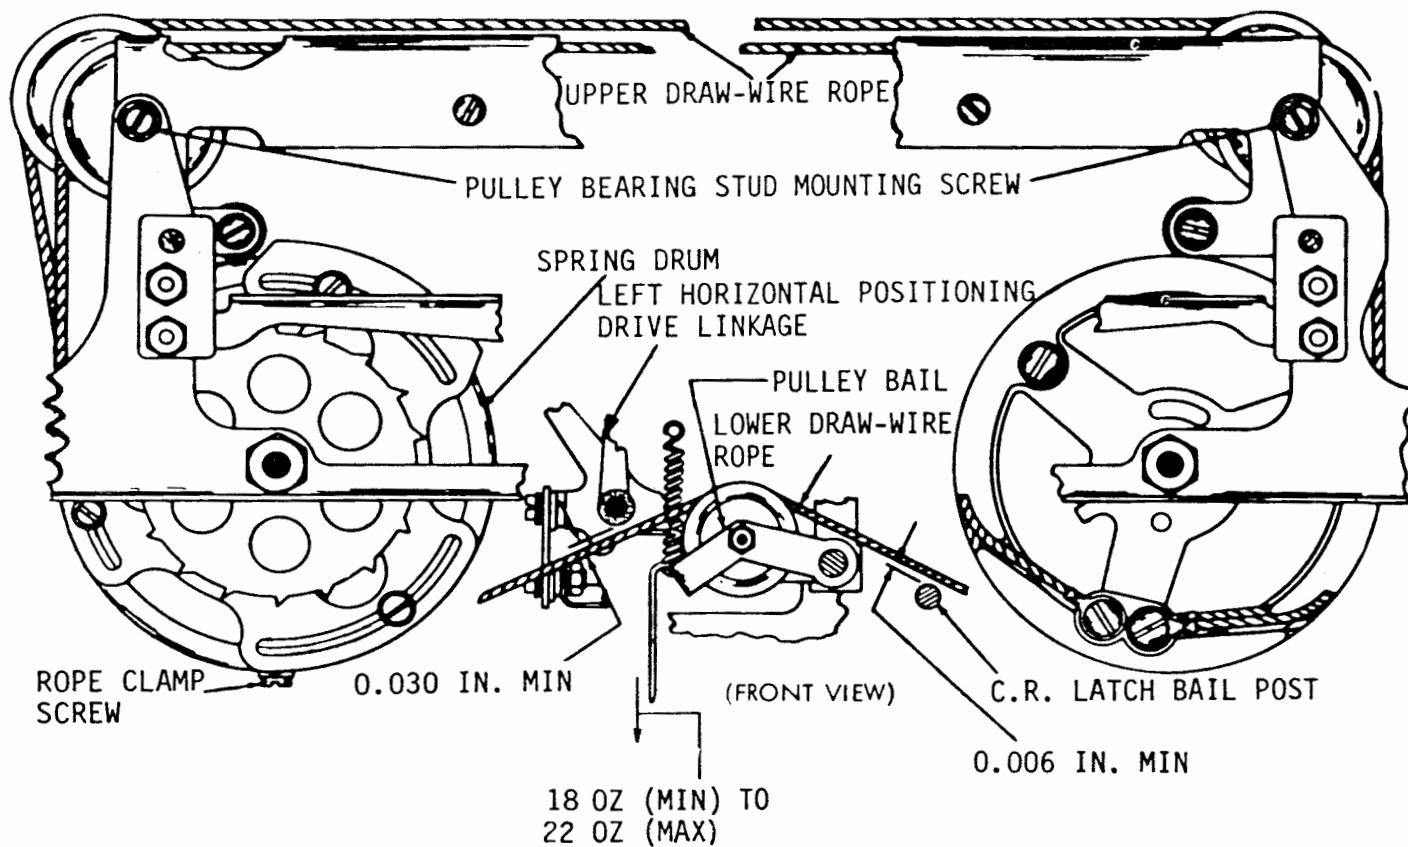
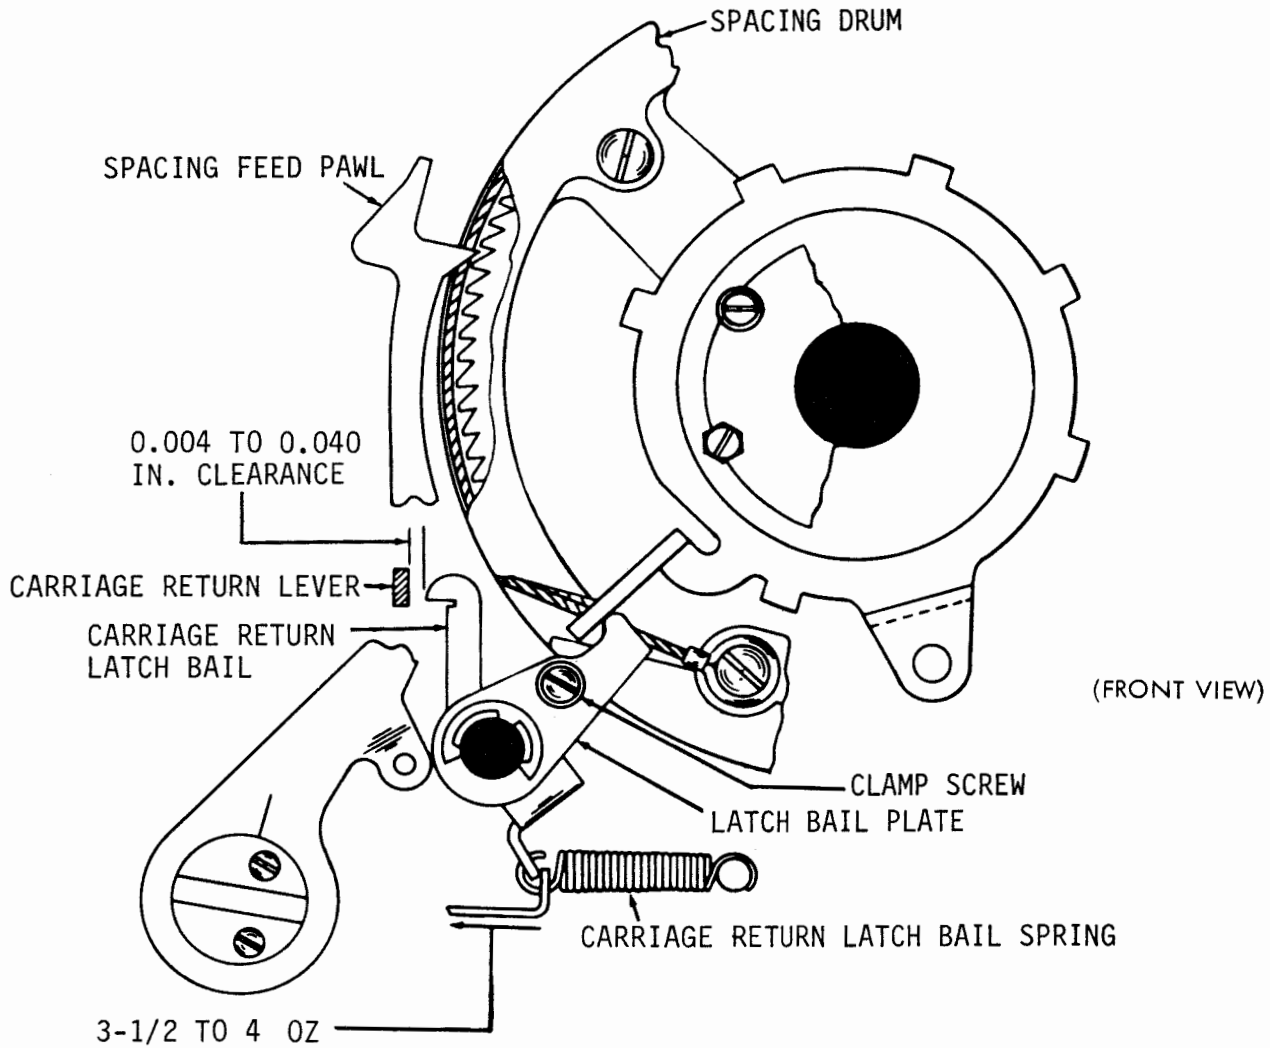
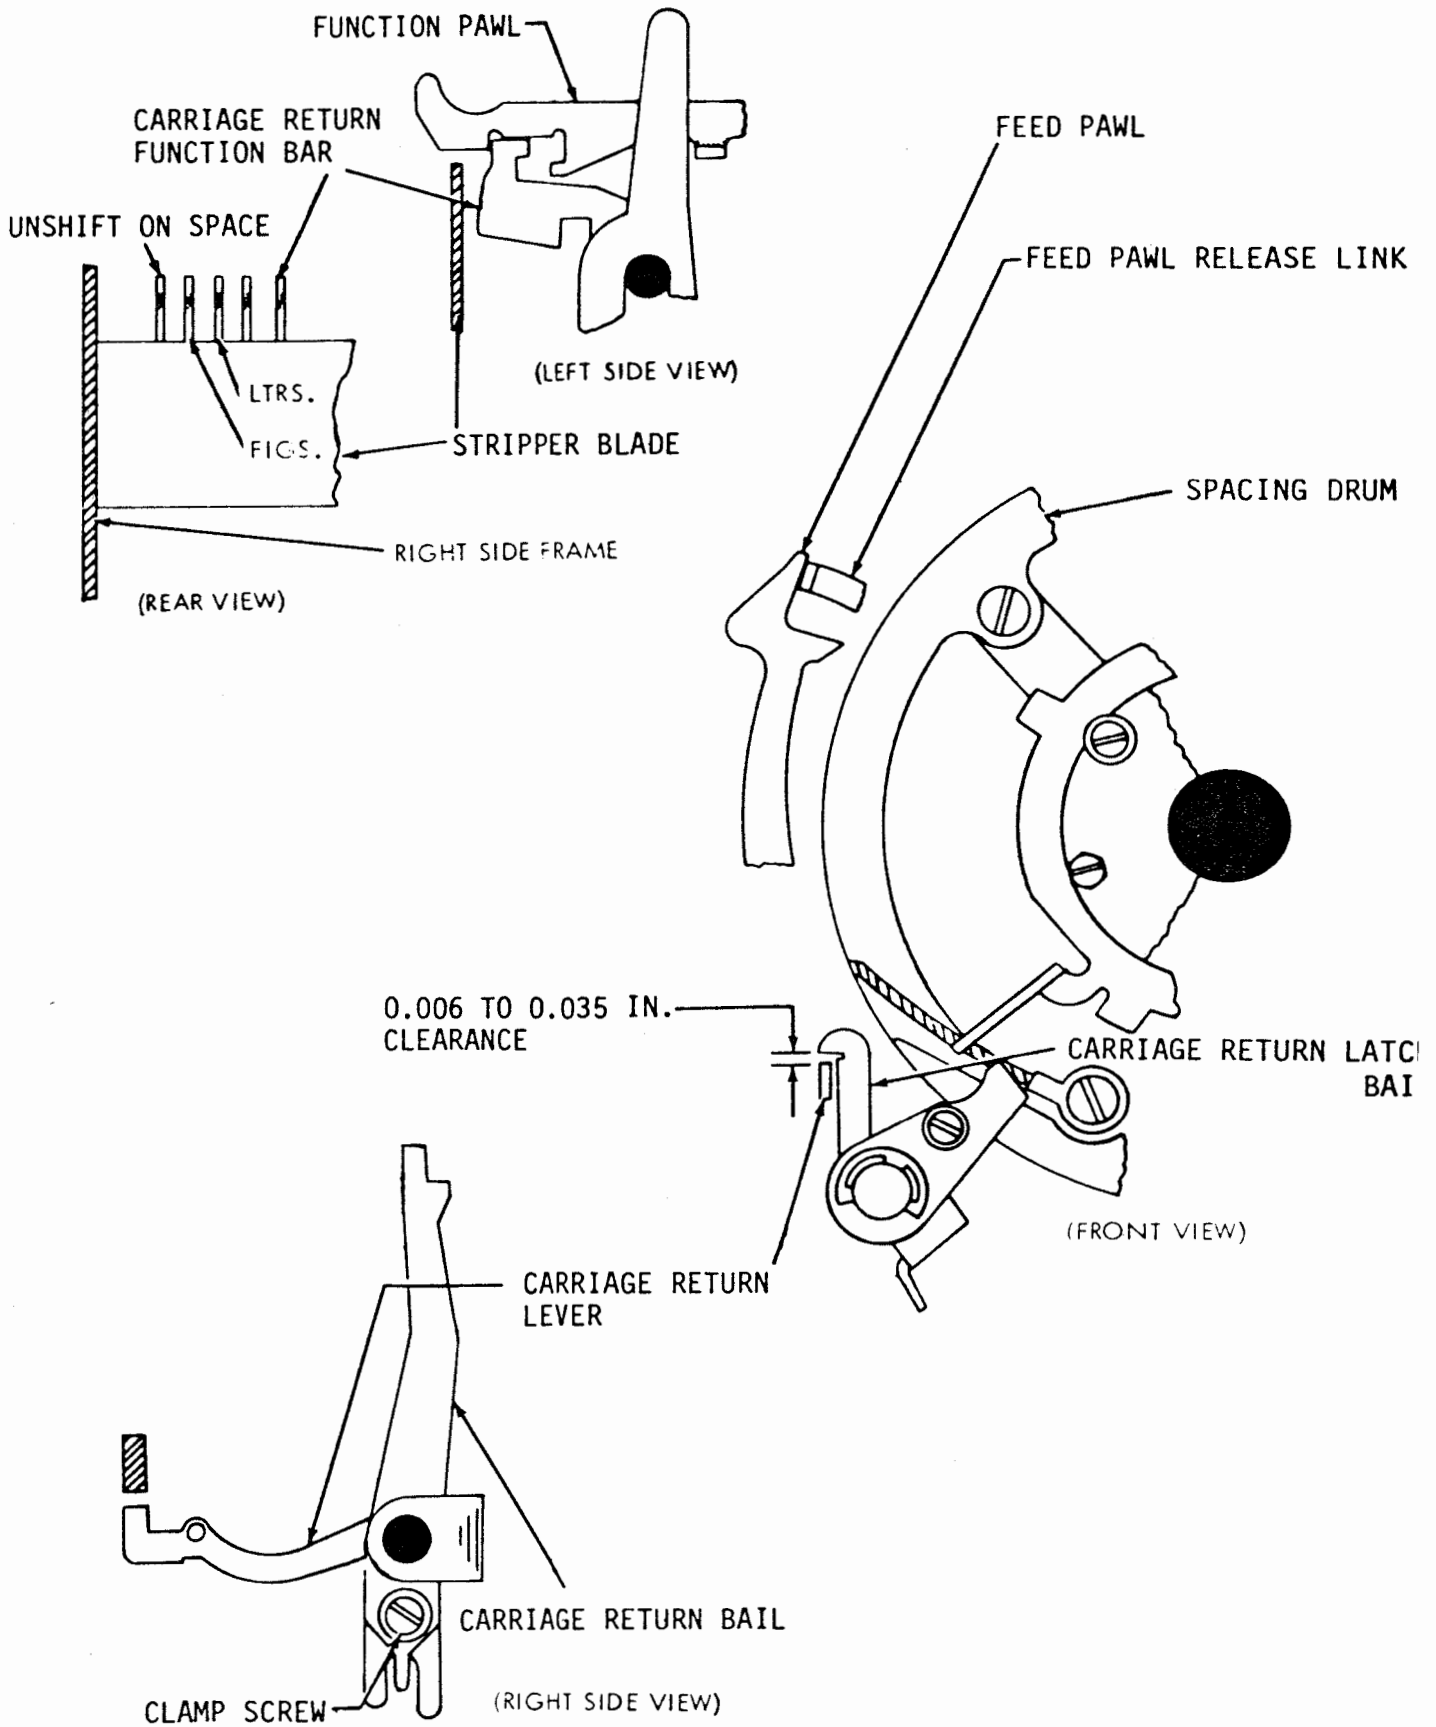

Figure 6-85. Carriage Draw-Wire Rope and Lower Draw-Wire Rope Pulley Bail Spring
Figure 6-86. Carriage Return Latch Bail and Carriage Return Latch Bail Spring
Figure 6-87. Carriage Return Lever
(a) Refer to figure 6-85.
(4) Lower Draw-Wire Rope Pulley Bail Spring. Adjust lower draw-wire rope pulley bail spring as follows:
- (a) Refer to figure 6-85.
(5) Carriage Return Latch Bail. Adjust carriage return latch bail as follows:
- (a) Refer to figure 6-86.
(6) Carriage Return Latch Bail Spring. Adjust carriage return latch bail spring as follows:
(7) Carriage Return Lever. Adjust carriage return lever as follows:
- (a) Refer to figure 6-87.